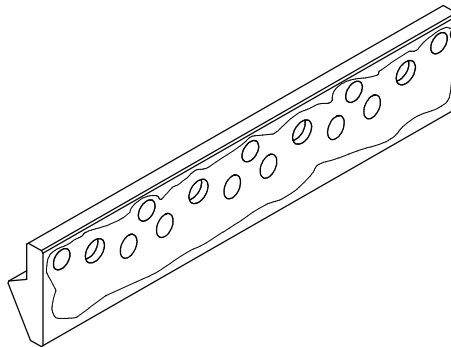

Figure 1
STEP 1. (OPTIONAL) APPLYING GREASE TO THE RAIL Assure the machine table or the beam top is clean and free of nicks, burrs or dents. Apply a thin layer of clean silicone grease to the bottom of the rail as shown in Fig. 1.